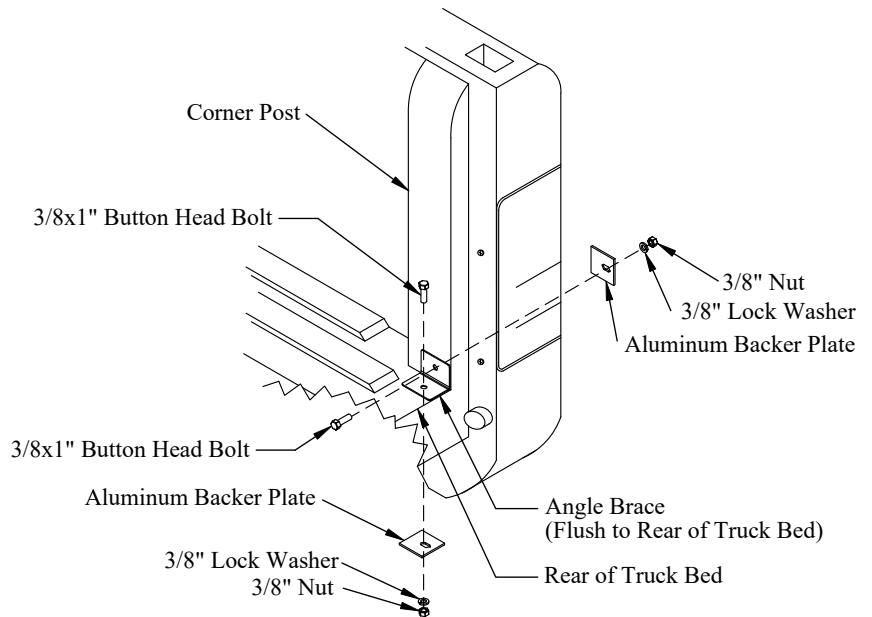

Figure 10: Angle brace location.
2. **Position** each angle brace flush with the rear of the truck bed, where the truck bed meets the corner post (Figure 10).
6. **Install** the angle braces on the truck using the 3/8" button head bolts, aluminum backer plates, lock washers, and nuts (Figure 10).
2. **Position** the mounting brackets into the truck bed in front of the corner posts (Figure 10).